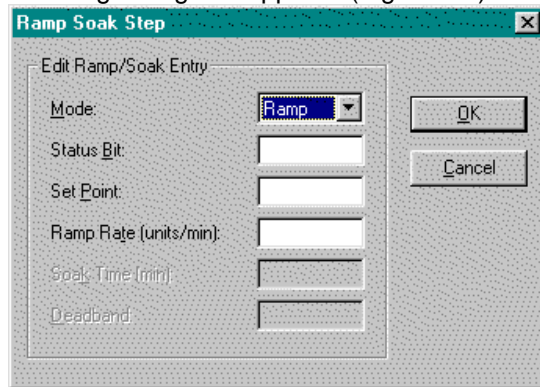

Figure 9.5
5. To edit the selected Ramp/Soak step number, click on the dialog box EDIT button or use the keyboard to Tab to the EDIT button and press Enter or (Alt + E). The following dialog box appears (Figure 9.5).